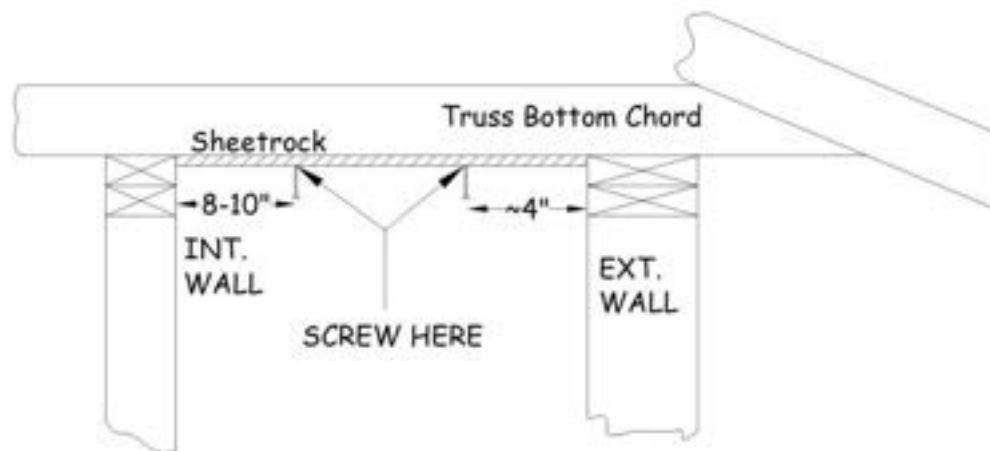

Figure 13-3. Screw Locations for Ceiling Sheetrock.
13. When fastening sheetrock to trusses that cross interior or exterior walls, hold the screws 8"-10" away from interior walls, and about 4"-6" away from exterior walls (see Figure 13-3).